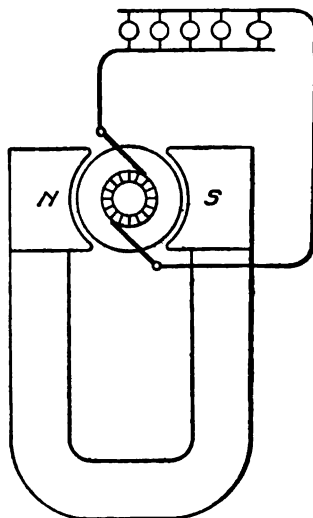

Fig. 26. Diagram of Magneto
*Permanent Field Used in Magneto.* The simplest of these, and the first to be designed, employed permanent magnets, from which such a generator takes its name, *magneto*. Fig. 26 is a diagrammatic representation of an early form of the magneto-generator. Since magnetism cannot be maintained permanently at the high flux-density or strength which can be produced by an exciting coil fed by a current, this method is only employed in very small generators, as its bulk for large powers would be excessive. Its great advantage is its simplicity and constancy. The magneto-generator shown in Fig. 26, however, is designed to produce a continuous current, and is not the type in general use on the automobile today.